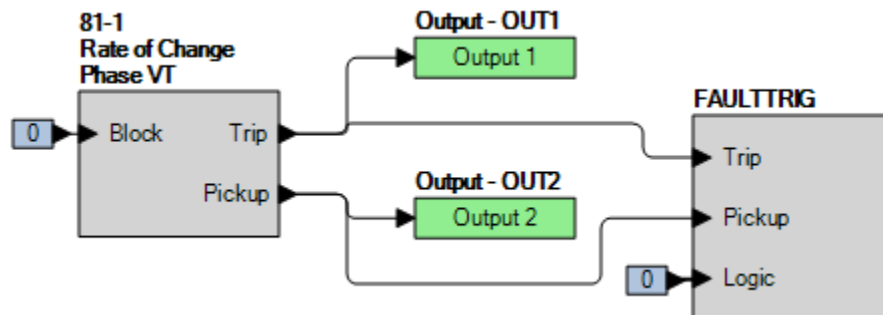

Figure 61-4. BESTlogic*Plus* Settings (ROC Inhibit)
Step 2: Use BESTCOMS*Plus* to configure the BESTlogic*Plus* programmable logic shown in Figure 61-4.